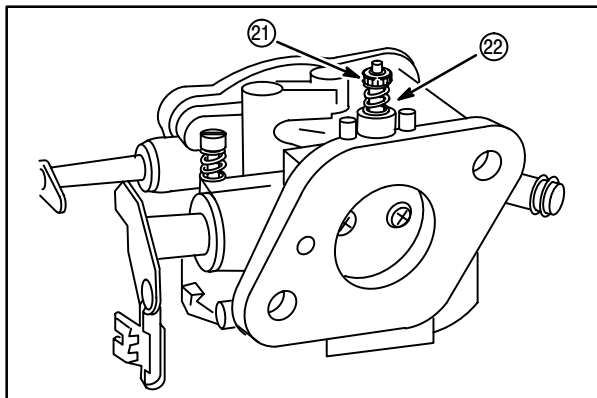

Fig. 39
19. Install idle mixture screw (21) and spring (22), **Fig. 39.**